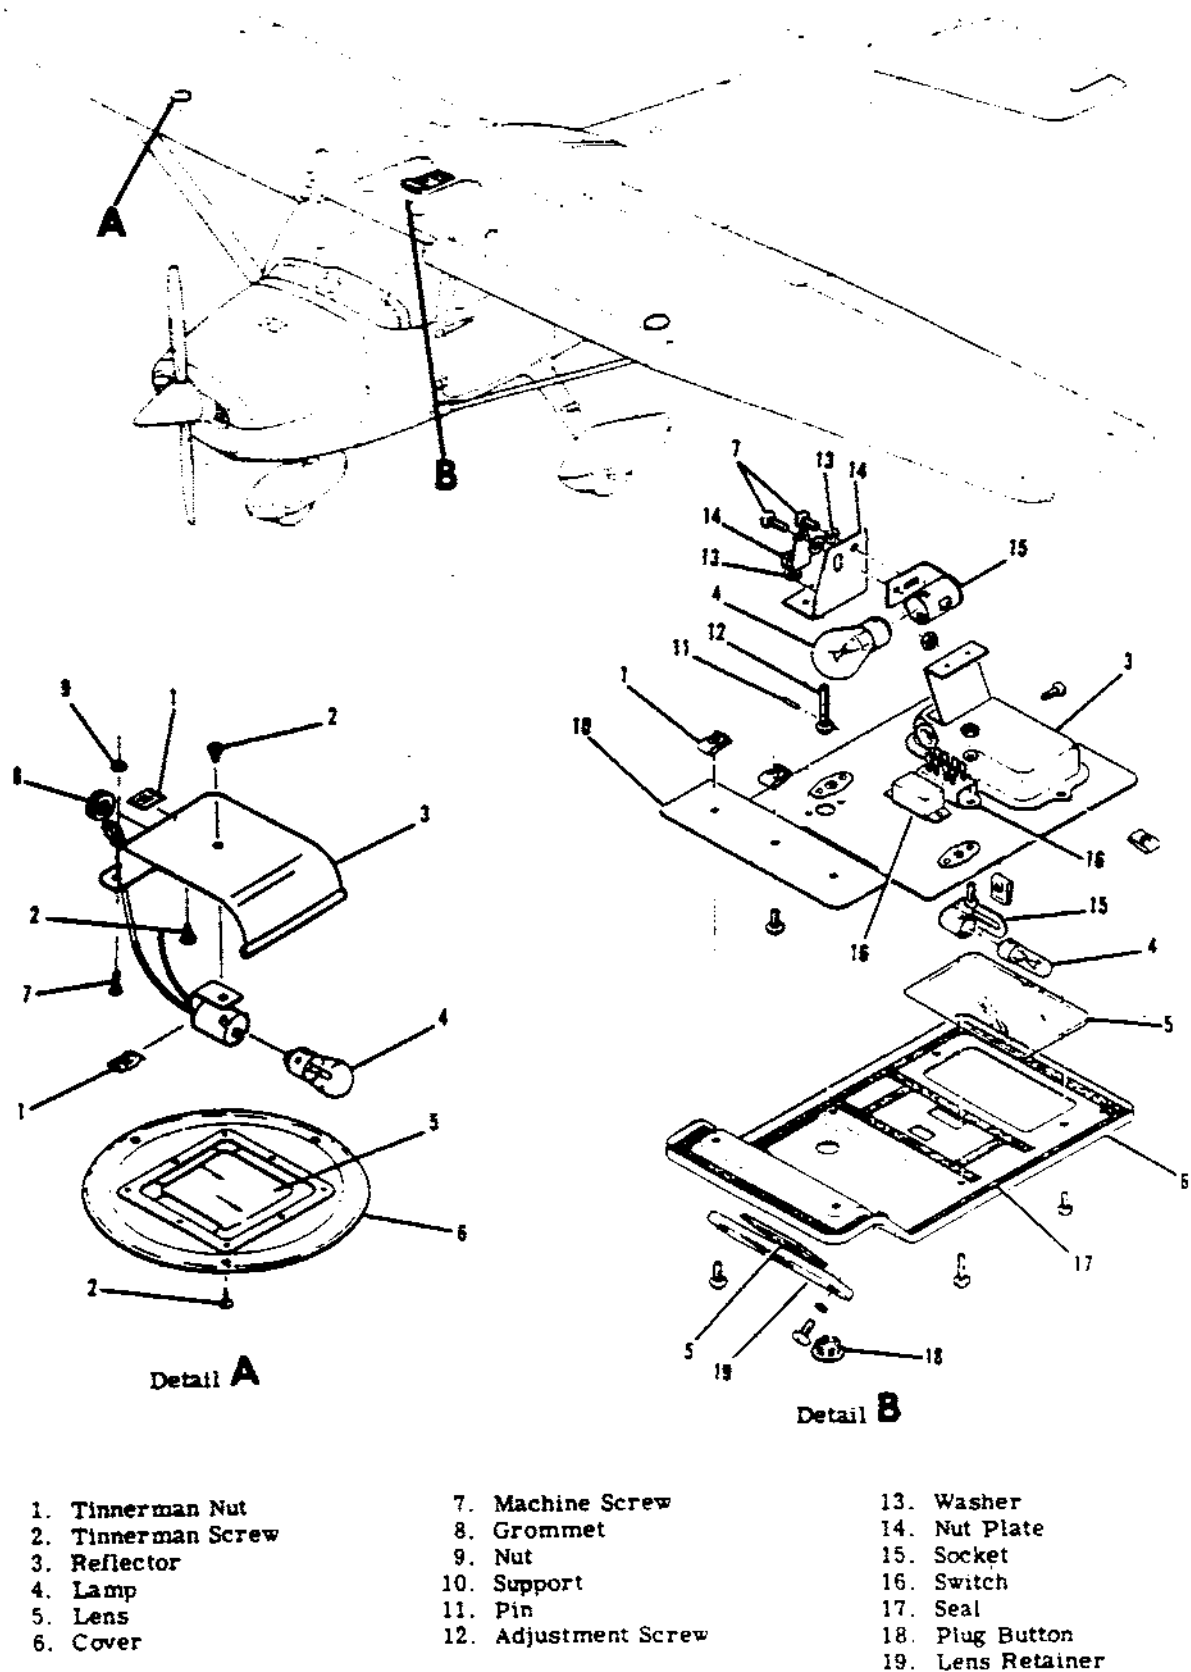

Figure 16-9. Instrument, Dome and Courtesy Light Installation
- 16-66. REMOVAL AND INSTALLATION. For removal and installation of instrument and dome light, see figure 16-9.
- 16-69. REMOVAL AND INSTALLATION. For removal and installation of the courtesy lights, see figure 16-9.